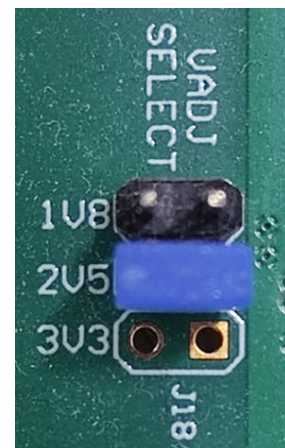

Figure 10. Controller Board VADJ SELECT Jumper Configuration
3. Ensure that the VADJ SELECT jumper (J18) is in the **2V5** position, as shown in Figure 10.